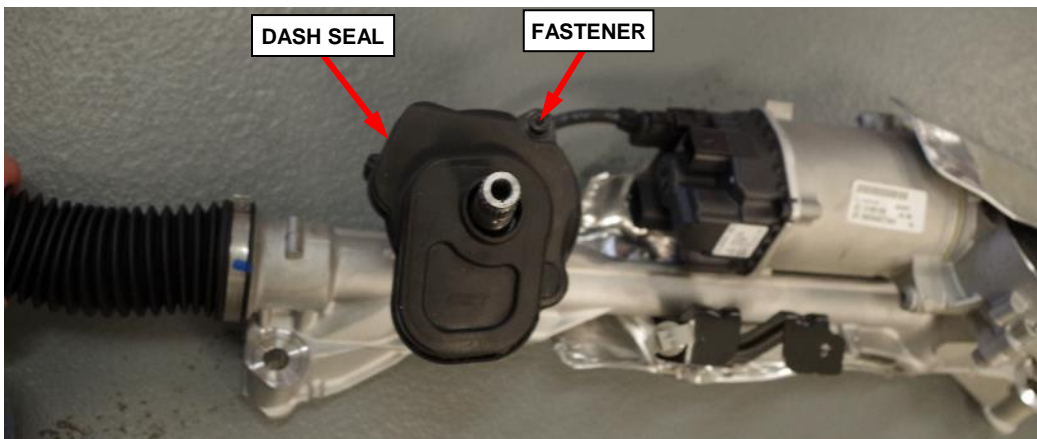

Figure 89 – Dash Seal
71. Transfer the dash seal and fastener from the old steering gear to the new steering gear. Tighten the fastener to 2.5 N·m (22 in. lbs.) (Figure 89).